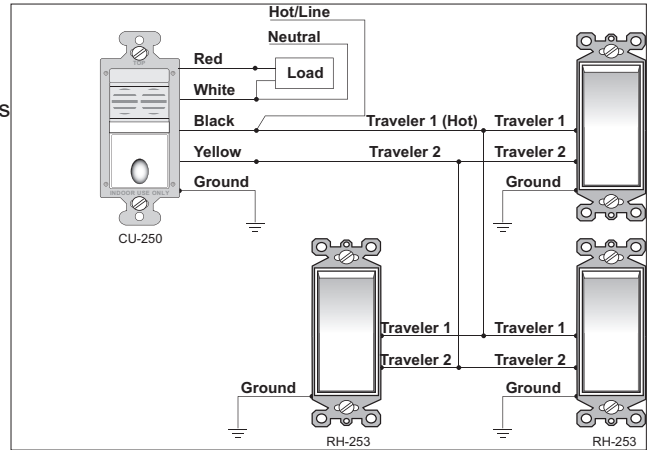

Fig. 3c: Multi-way wiring using one CU-250 and three RH-253s
- Connect the existing wires to the wire leads on the CU-250 sensor as indicated below (See Fig. 3c). Cap them securely using appropriately sized wire nuts.